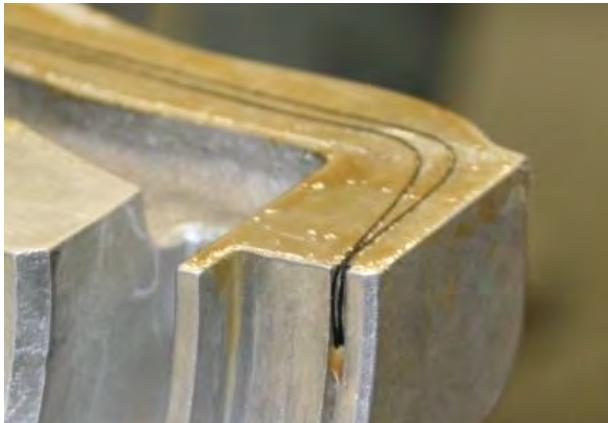
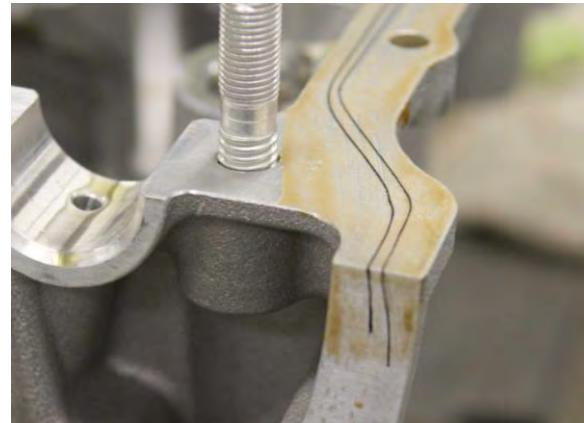

Figure 72
Figure 73
- (4) All continuous silk thread lengths must extend not more than $\frac{1}{4}$ -in. (6.35 mm) beyond the front and rear end of the crankcase half. Figure 72 shows the thread overhand extension into the seal groove on the front end of the crankcase half. Figure 73 shows the silk thread overhang extending from the rear of the crankcase half.